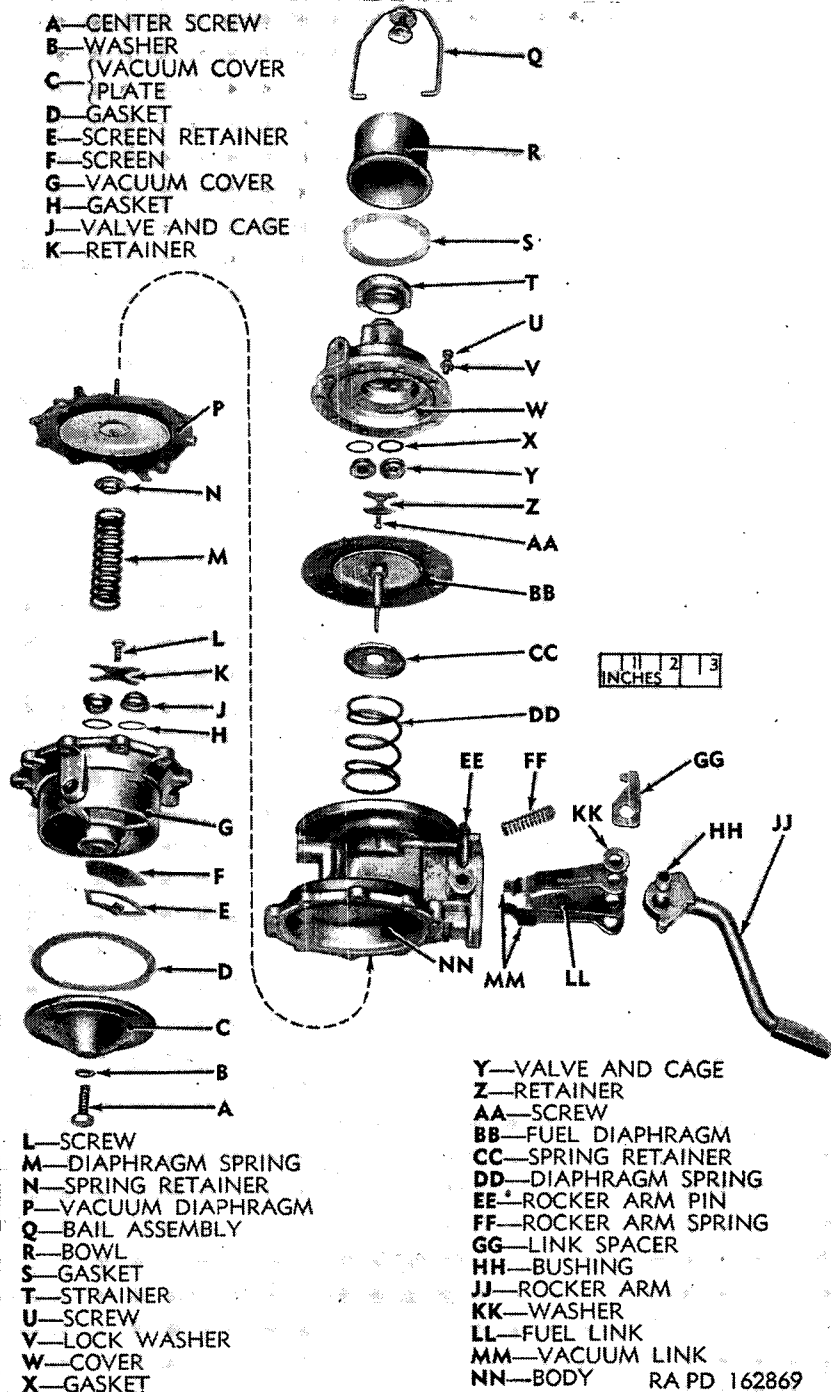

Figure 43. Fuel and vacuum pump—disassembled (typical series AX construction).
(fig. 43)
*a. Assemble Body (fig. 43).*
- (1) Assemble link spacer over fuel link. Place one vacuum link on each side of fuel link. The hook ends of the vacuum link should come together so that they surround the fuel link. All link hooks should point in the same direction. Place assembly of links and spacer between holes of rocker arm with one spacer washer on outer side of each vacuum link. Slide rocker arm bushing through holes in rocker arm, spacer washers, and links.
- (2) Stand the pump body on the bench, fuel flange down. Set the rocker arm spring in position with one end over the cone cast into the body. Slide rocker arm and link assembly into body. Outer end of rocker arm spring slips over the projection on link spacer; the open end of all link hooks must point toward vacuum flange. Aline rocker arm bushing hole with hole in body and drive in rocker arm pin. Place washer over small end of pin and retain by spreading end of pin.
- (3) Soak fuel diaphragm in clean kerosene. Fuel oil may be used, but do not use shellac or sealing compound. Place fuel diaphragm spring and its retainer over body pull rod well and install the diaphragm assembly. Retain diaphragm by hooking to fuel link.